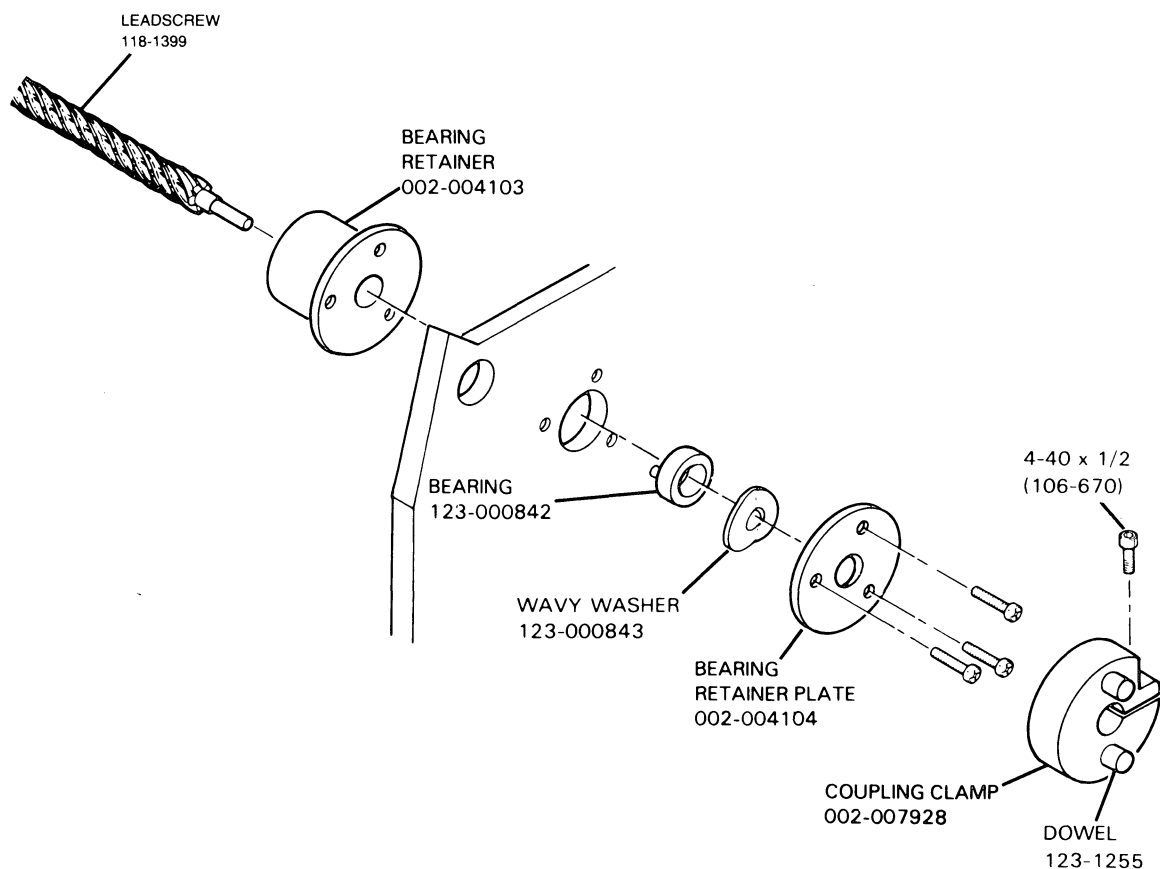

Figure 5.10 Leadscrew Removal/Replacement
5. Loosen the coupling clamp set screw using a 3/32 inch Allen wrench, and slide coupling off the leadscrew (see Figure 5.10).